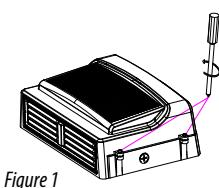
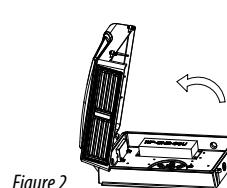
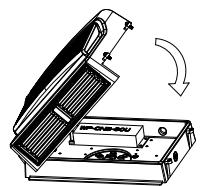

Figure 1
Figure 2
Figure 9
2. Use a screwdriver to remove the screws on both sides. (Figure 1)
3. Open the fixture, pull out the connection terminals, and remove the upper cover of the fixture. (Figure 2)
9. Connect L, N and G wires to the power supply as per Figure 1 and Figure 2. (Figure 9)